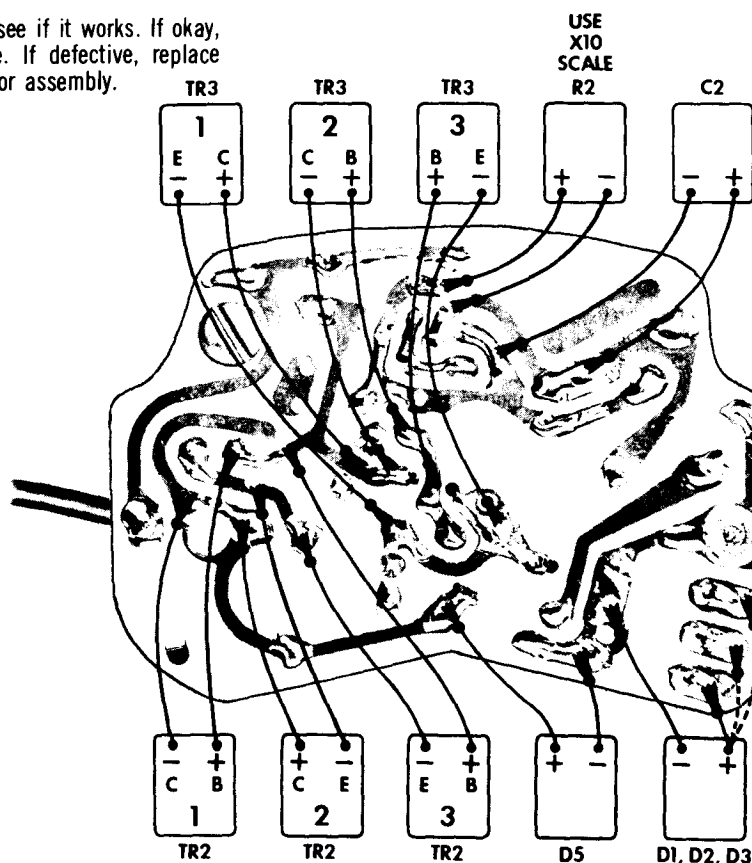

Figure 17—Checking components.
- E. Check components as follows (Figure 17). Use 1½-volt ohmmeter on low scale. **SCRATCH HARD WITH SHARP INSTRUMENT TO BREAK THROUGH TRANSPARENT COATING OVER SOLDER TO MAKE OHMMETER CONTACT.** Use 50-watt soldering gun.